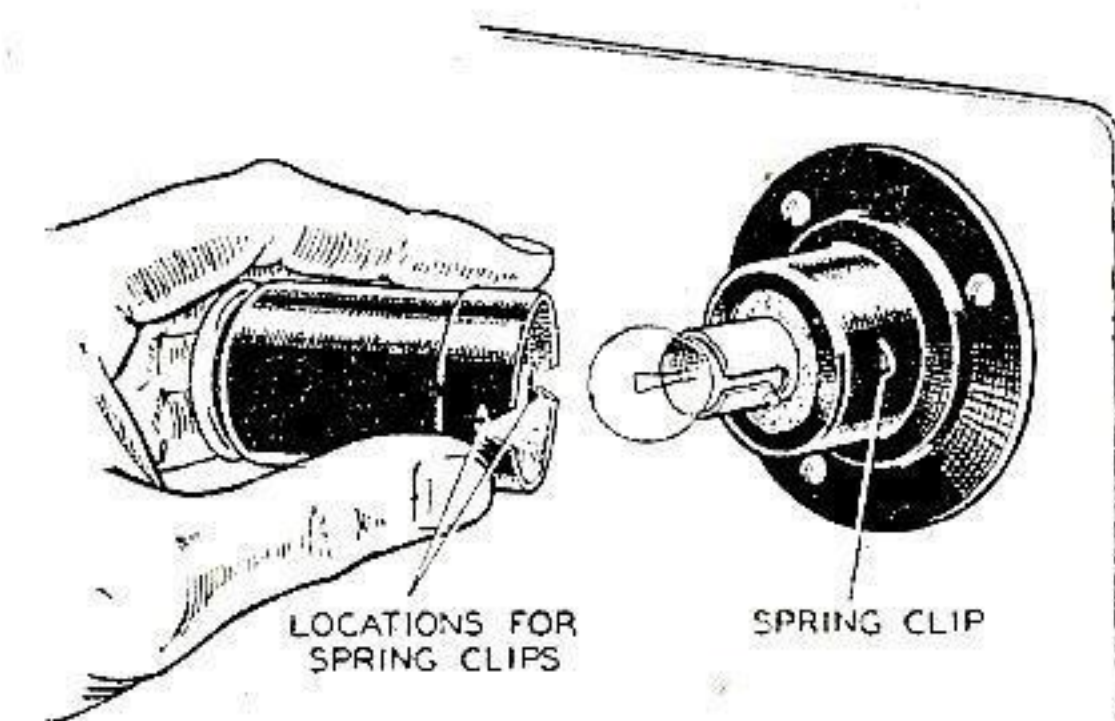

FIG. 50. LUCAS TAIL LAMP
A.J.S. machines and many earlier models, is of Lucas manufacture and of the type shown in Fig. 50. The body of the lamp, complete with bulb holder, is secured to the rear number plate by means of three bolts, with appropriate washers and nuts. The portion of the lamp housing the red glass can be detached by giving it a half turn to the left and then pulling it outwards. When replacing the outer portion, engage the slots in the body with the two spring clips on the body of the lamp, and push right home to obtain full engagement.